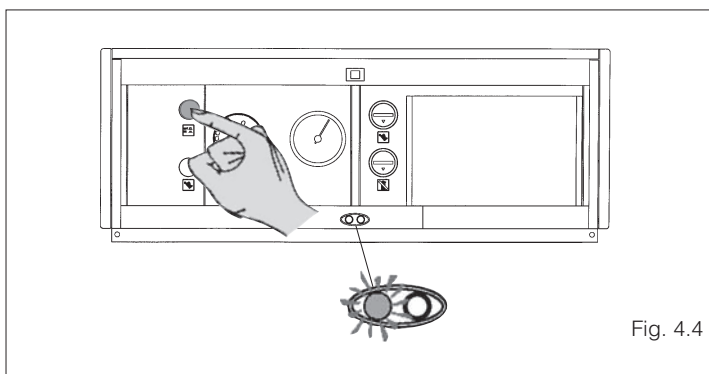

Fig. 4.4
- Switch the boiler on at the control panel switch and check that the green power indicator lights (fig. 4.4).